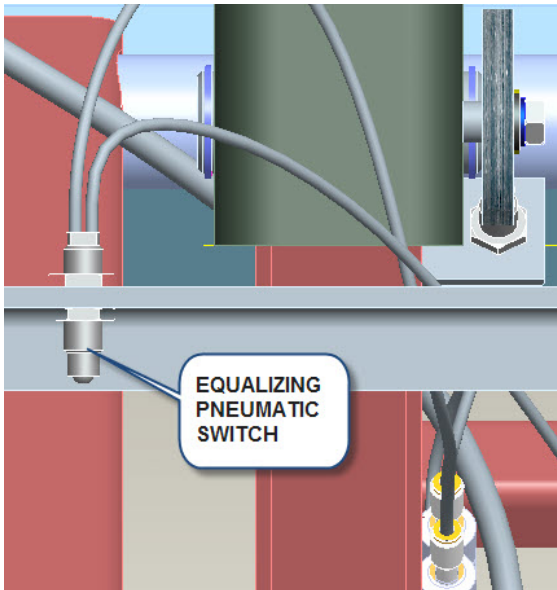
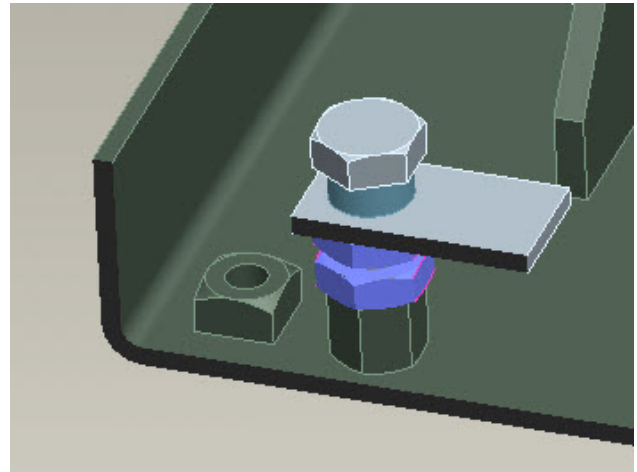

Figure 17 - Equalizing
Figure 18 – Sensor Plate
When the lift is lowered to its minimum height, the equalizing pneumatic switches (Figure 17) will make contact with the sensor plates located on the baseframe (Figure 18) and start the equalizing process. The equalizing switches are adjusted at the proper height prior to leaving the factory, however, if adjustment is required use the following procedure.
3. Remove the sensor plate and bolt assembly from the baseframe (See Figure 18).